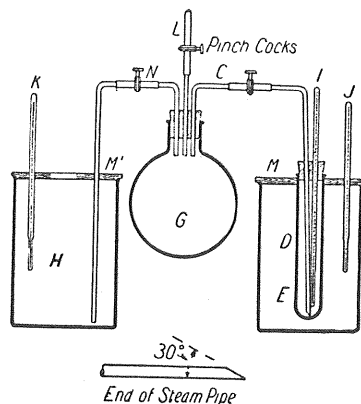

FIG. 9—APPARATUS FOR S. E. TESTS
**Procedure**—(a) Preparation—The apparatus shall be assembled as shown in Fig. 9. The steam generator shall be filled one-half full of water and heat applied. The baths shall be filled with 3 liters plus or minus 60 cc. of water. The temperature in the separating bath shall be raised to and maintained at 93.3 to 95°C. (200 to 203°F.). (Care must be taken if glass battery jars are used, as direct heating by flame or electric hot point may cause breakage. Use of steam in this connection insures against breakage).
The temperature of the emulsifying bath shall be brought to not less than 19.4°C. (67°F.) nor more than 25.6°C. (78°F.) at the start of the test, and is not controlled thereafter. Twenty cubic centimeters of the oil to be tested shall be measured in the oil container at room temperature and the latter placed in the holder of the emulsifying bath. The steam pipe, or delivery tube, shall be connected to the steam generator with suitable rubber tubing, and screw pinch-cocks placed as shown in Fig. 9.